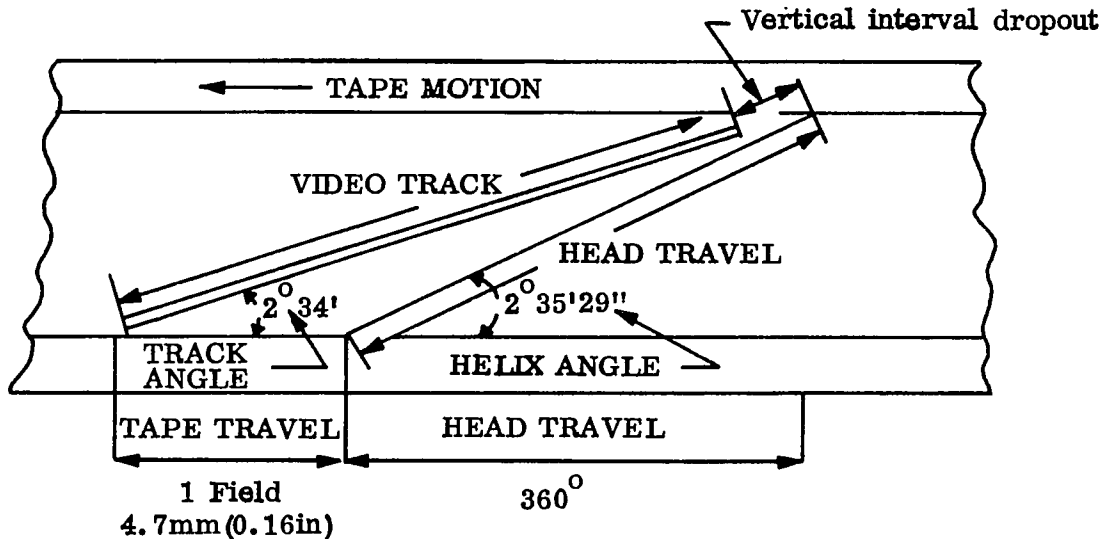

FIGURE 7. Helix angle versus track angle
10. The helix angle,  $2^{\circ} 35' 29'' + 2''$  is the angle formed between the path of the rotating pole times and the tape reference edge guiding system on the scanner. (Figure 7)